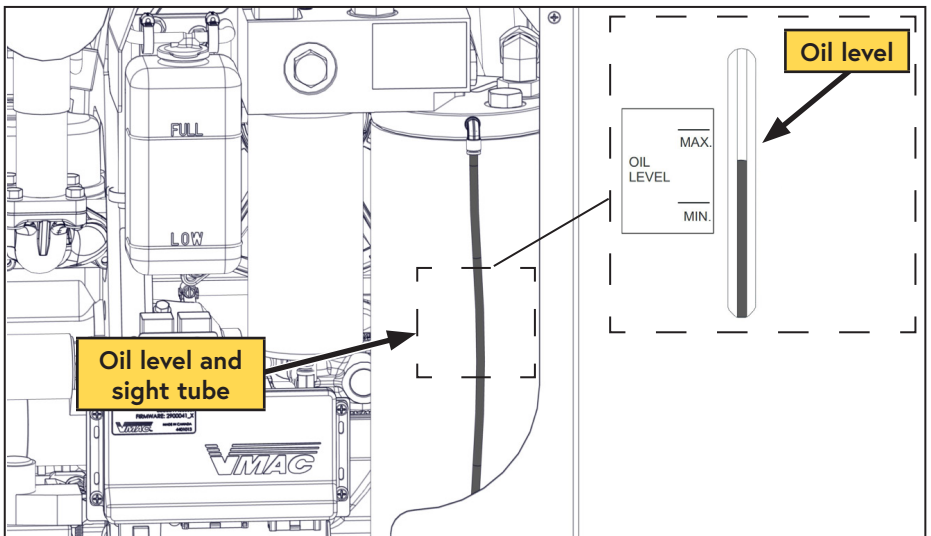

Figure 14 — Add compressor oil
- Using a funnel, add oil to the AOST until it reaches the "MAX" line on the sight glass on the front of the AOST. The air compressor system holds approximately 1 USG (4 L) of oil when dry (Figure 14).